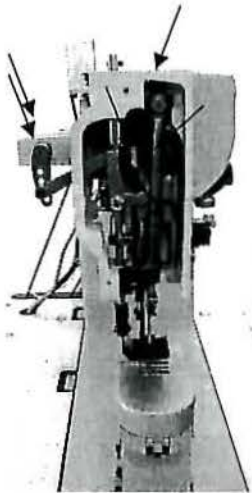

Fig.2
4.OILING (Figs. 2、 3、 4、 5&6)
1) Oil should be applied at each of the place designated by arrows in Figs. 2、 3、 4、 5&6